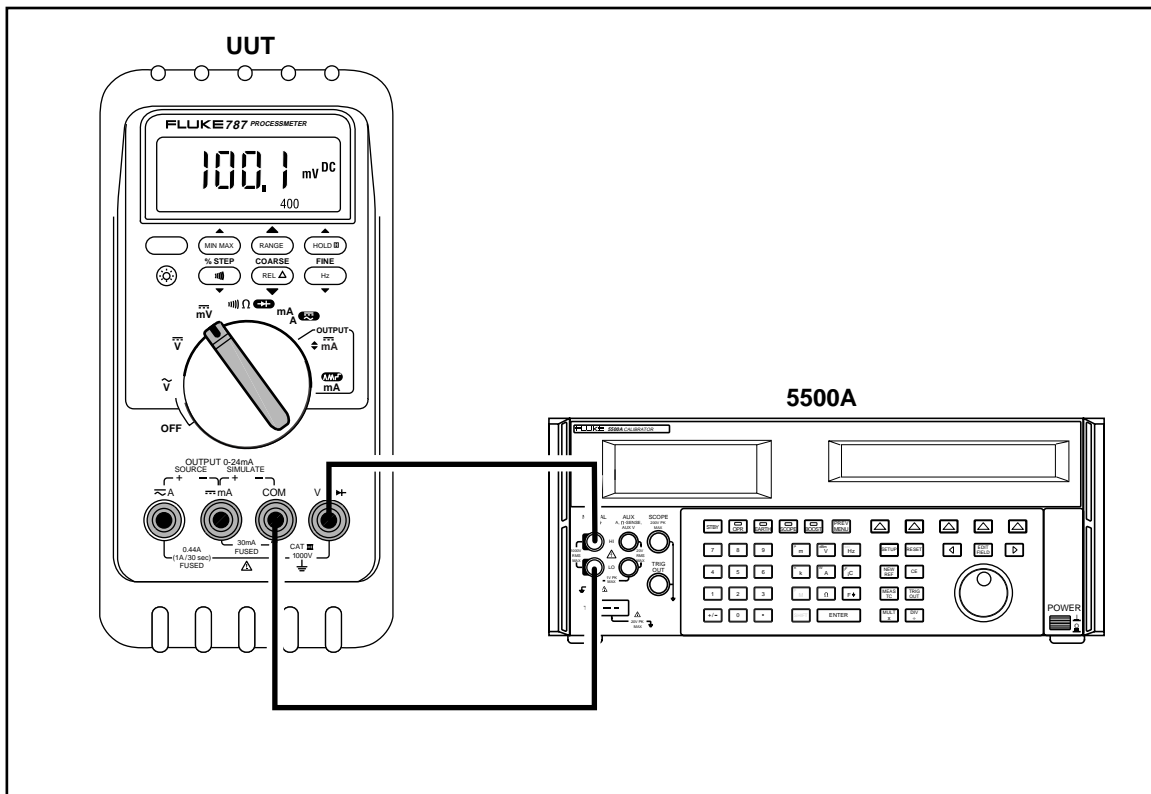

Figure 9. DC mV Measurement Test Connections
3. Connect the calibrator to the **COM** and **V Ω →** terminals on the UUT as shown in Figure 9.